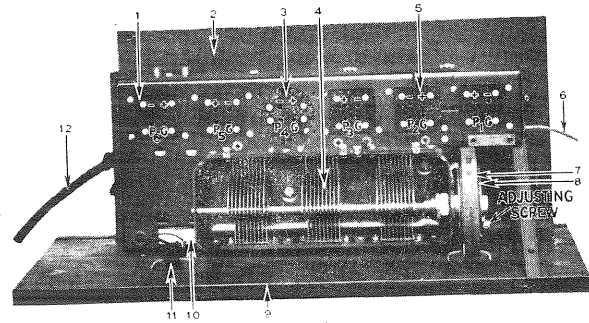

Fig 1
If the Weston Radio Set Tester is used, the tube tests can be made in the regular manner by placing the plug in socket No. 1, Fig. 1. If the set tester is not available, the low scale of the voltmeter can be used, the procedure being as follows:
- b. Place the two leads connected to the low scale of the voltmeter in the two filament socket contacts of Radiotron Socket No. 2 marked "+" and "-" as shown in Fig. 1; regulate the voltage to 5 volts.
- d. Note the deflection of the meter when the latter is connected as described above, and compare this deflection with that given by a tube which is known to be good. The amount of deflection depends on (1) the meter used, (2) the condition of the "B" batteries, and (3) the condition of the tube under test. (1) and (2) remaining unchanged, a comparative indication of the condition of the various tubes can be obtained; in general a high deflection indicates a good tube, and a low deflection indicates a poor tube.